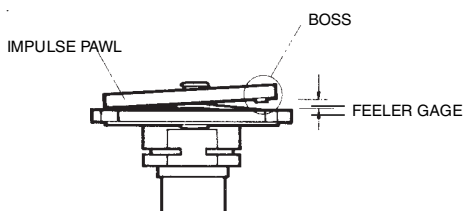

Figure 3.3.4D
12. Maximum clearance for pawls with one (1) boss is 0.150 inch. Maximum clearance for pawls with two bosses is 0.150 inch for left- hand rotation couplings and 0.140 inch for right-hand rotation impulse couplings. If the feeler gauge can pass between the full width of the boss and the pawl plate, replace the impulse coupling. See Figure 3.3.4D. For coupling rotation, see magneto data plate.